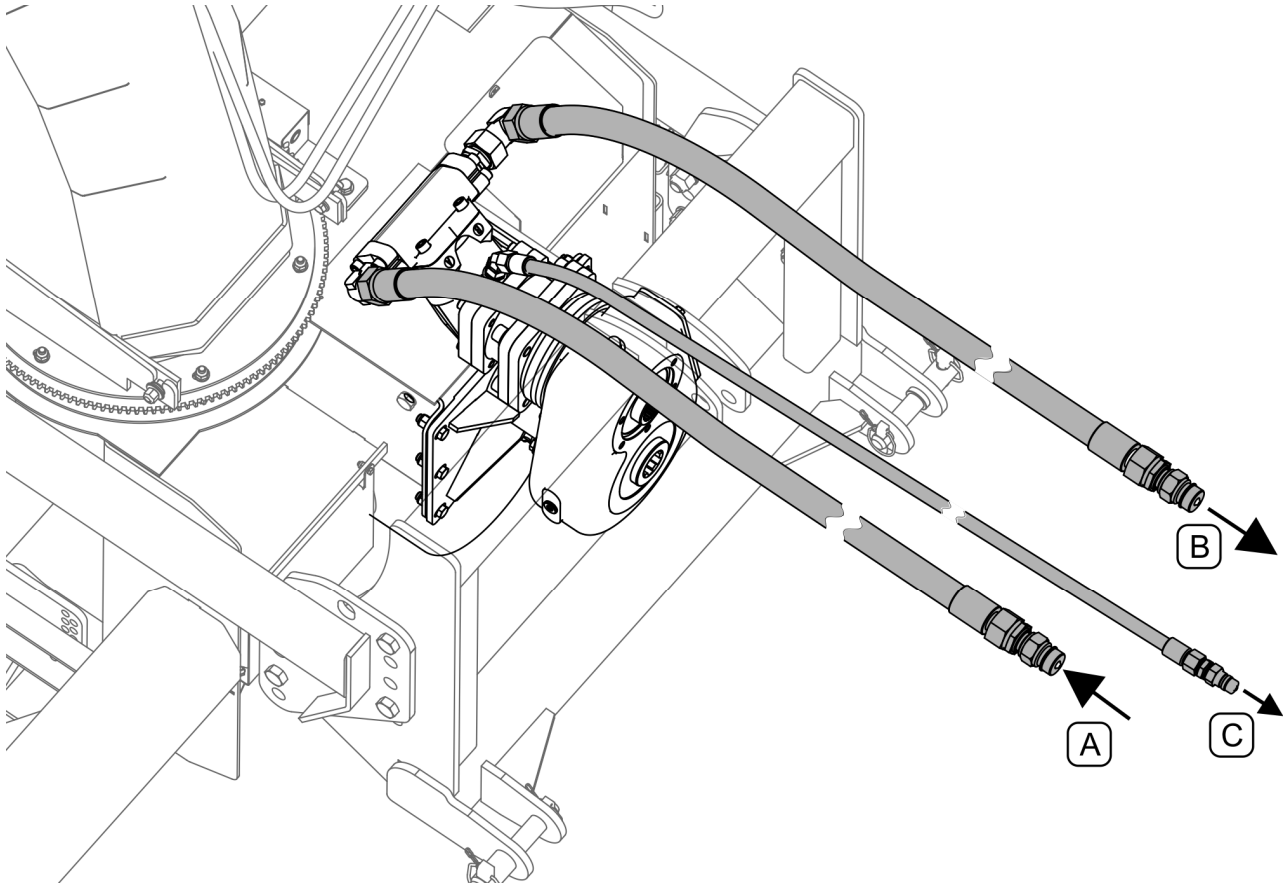

FIG. 4.5 Connecting supply to carrying vehicle's hydraulic system
(1) - hydraulic line; (2) - hydraulic line (3) - hydraulic line; (4) - connector body; (5) - connector body; (6) - quick coupler plug; (7) - quick coupler plug; (8) - quick coupler plug; (9) - plug stopper; (10) - plug stopper; (11) - plug stopper
Snow blower with hydraulic drive (OW2.4H) is connected to suitable external hydraulic system of the carrying vehicle by means of hydraulic lines (FIG. 4.5) terminated with quick couplers (1), (2) and (3). Requirements for carrying vehicle cooperating with snow blower with hydraulic drive are presented in TABLE 1.1 in section 1.2 PROPER USE.